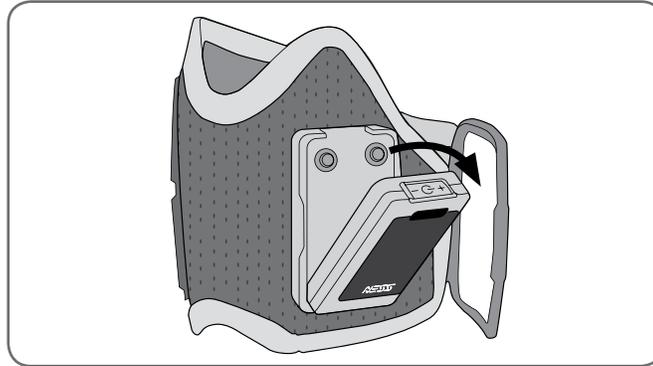

Figure 15-3: Removing the RF Stim Unit.
1. Remove the RF Stim Unit from the FS Cuff cradle. See Figure 15-3.